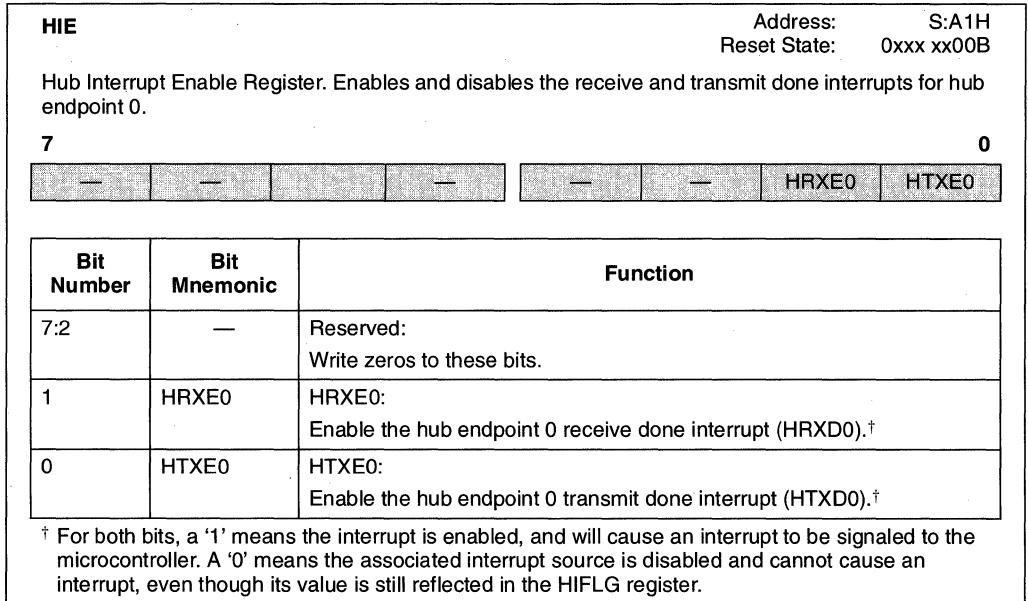
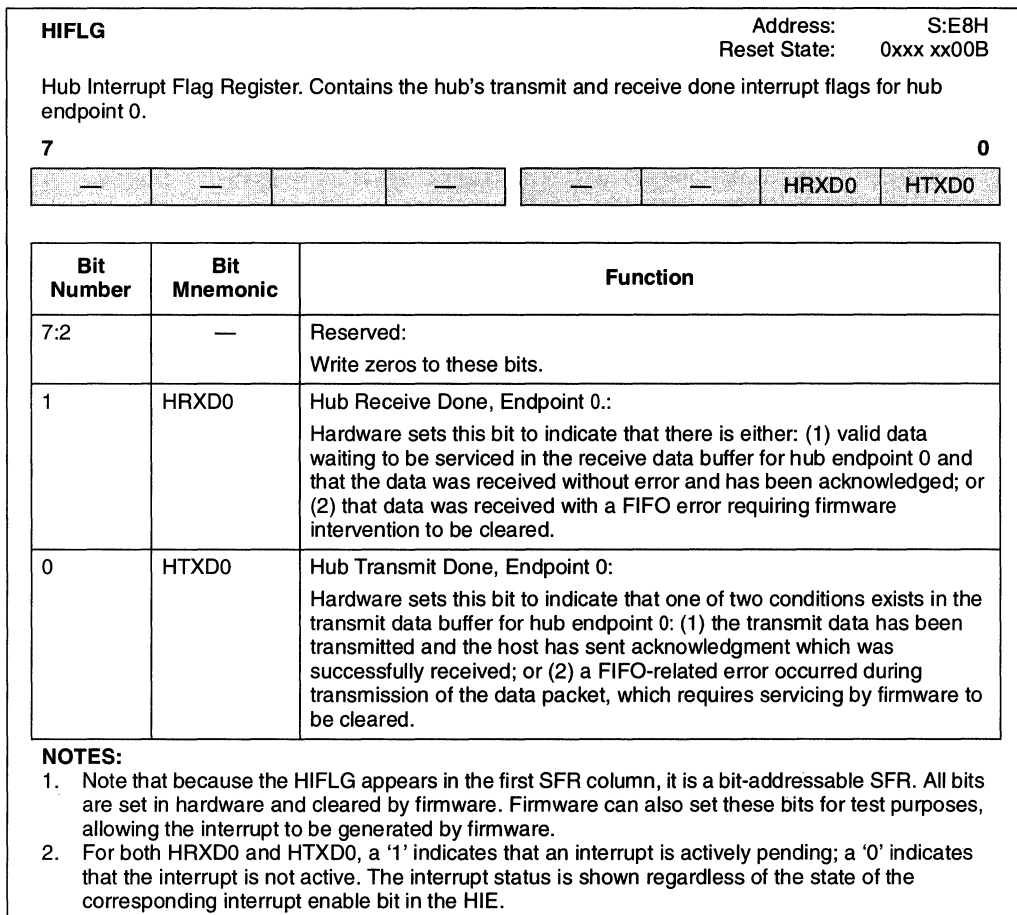

Figure 6-9. HIE: Hub Interrupt Enable Register
Figure 6-10. HIFLG: Hub Interrupt Status Register
- a. To enable the receive done interrupt, set the HRXE0 bit in the Hub Interrupt Enable SFR (HIE, as shown in Figure 6-9)
The USB Hub Interrupt Flag Register (HIFLG, as shown in Figure 6-10) is used to indicate pending hub interrupts. For all bits in HIFLG, a '1' indicates that an interrupt is actively pending; a '0' indicates that the interrupt is not active. The interrupt status is shown in the HIFLG register regardless of the state of the corresponding interrupt enable bit in the HIE Register (Figure 6-9).